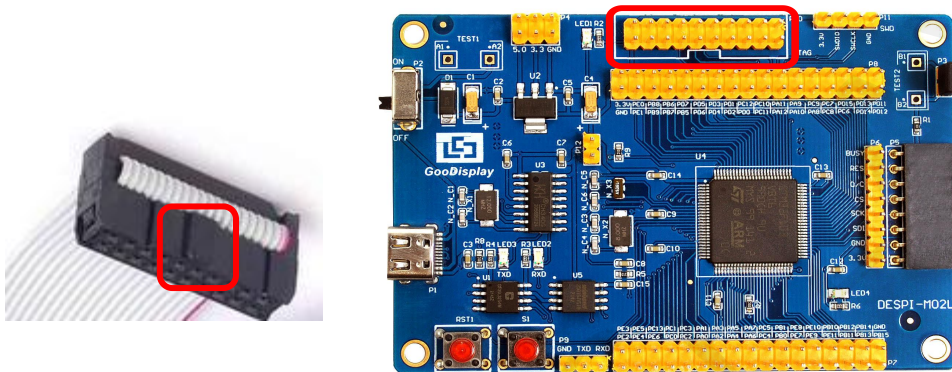

Figure 6 : Connection between JTAG and simulator
- 1) Connect the simulator to DESPI-M02's JTAG interface ( align the raised part of the figure 6 simulator interface to the notch direction of the JTAG interface ) and connect the computer USB port at the other end.